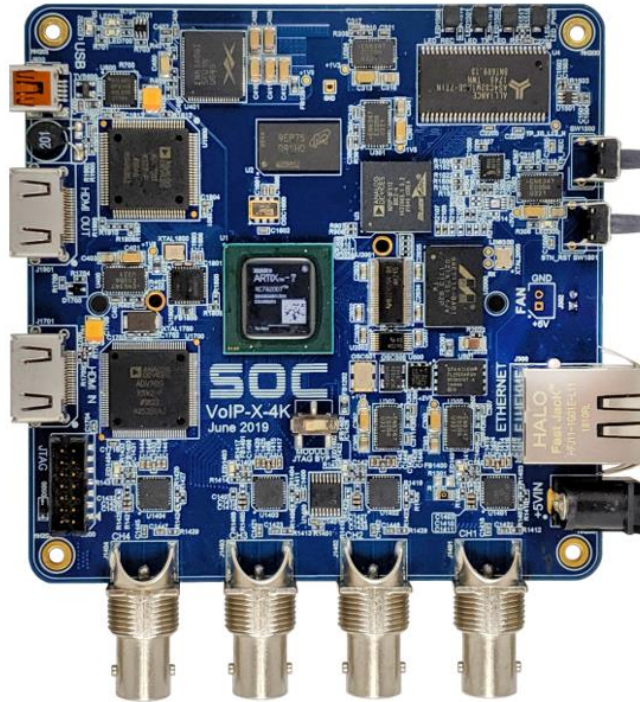
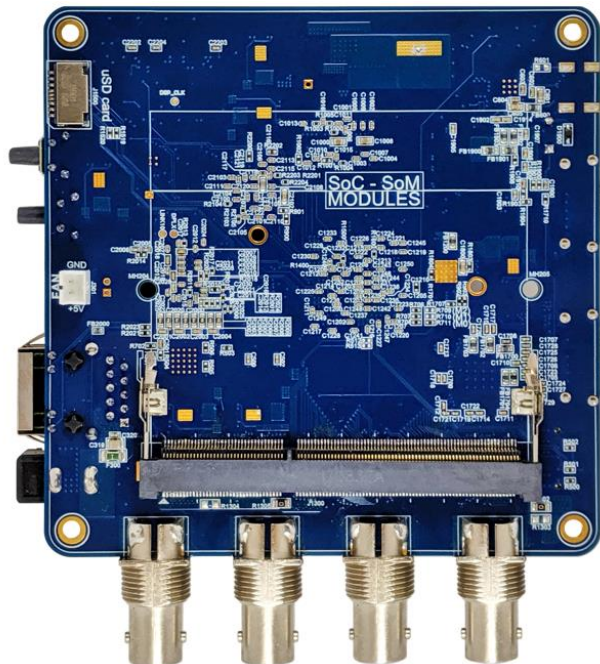

Fig.1 VoIP-X-4K Top View
Fig. 2 VoIP-X-4K bottom View
The VoIP-X-4K with an encoder or decoder module is a fully functional H.264/265 (or MPEG-2) video/audio over the Internet (IP) transmitter or receiver that can be packaged into an enclosure box for end-user products. It provides HDMI input, HDMI output, four 3G/HD SDI ports, with each can be configured into either input or output. The 4 SDI ports together can be used for 4K@30/60 video input or 4K@30/60 output. Each of the 3G/HD SDI port can be used to one HD@30/60 input or output. The Ethernet port along with the firmware inside the FPGA provides the UDP/RTP/IP compatibilities. The VoIP-X-4K Board is shown in Figure 1 (top view) and Figure 2 (bottom view).